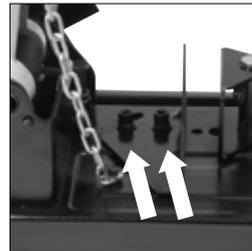

Fig. 8
- Loosen the two (2) M10 socket headed screws **(Fig. 8)**